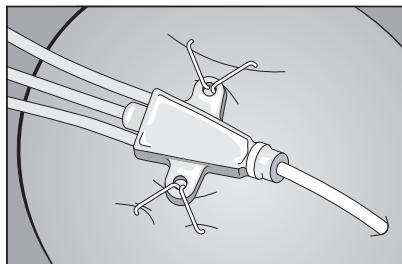

Figure 2
- Firmly squeeze anchoring device together to close staple and secure catheter to skin (refer to Figure 2).